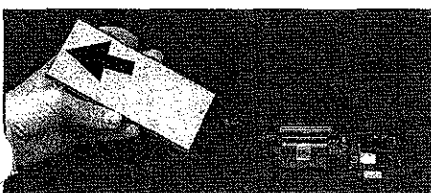

Figure 36
4. Position the LCD in your **left hand** so you hold the LCD along it's pad connection edges, with the back (papered side) facing up (see Figure 36).
5. On one of the edges of the LCD there is a small "bump". Ensure that the "bump" is towards your **left** (see arrow in Figure 36).